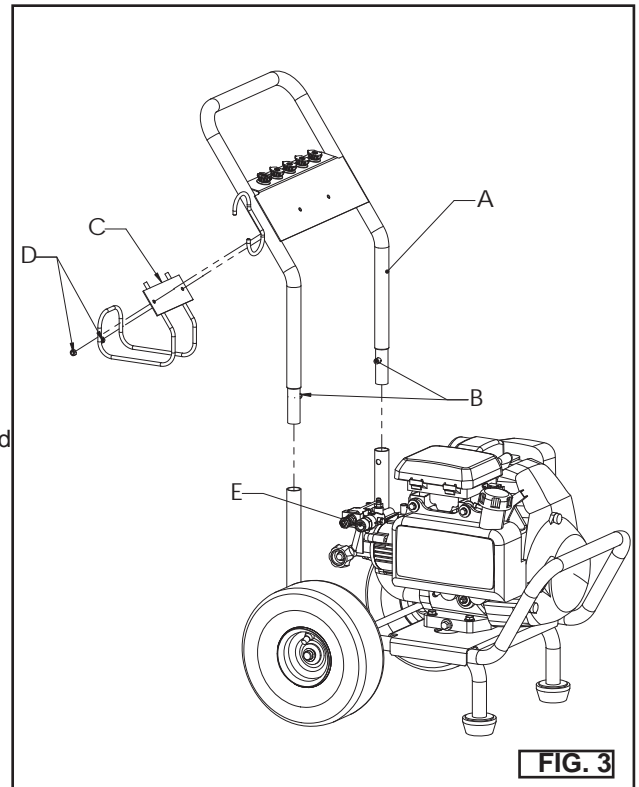

FIG. 3
3. Install the handle (A) by centering it over the frame, push in the pins (B) slightly and push down to lock in place.
5. Attach the hose hook (C) to the handle (A) by lining up the 2 holes in the base with the studs on back of the handle, then thread the 2 nuts (D) onto the studs as shown in Fig. 3 and tighten using a 3/8" wrench or socket, or adjustable open-ended wrench (i.e. crescent wrench). Insert the 5 nozzle tips into the grommets on the panel.
6. Connect high-pressure hose to pump outlet (E). Tighten securely. (Fig. 3)